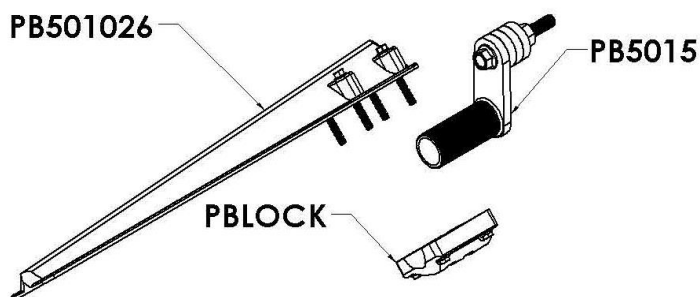

Figure 10
- A. Use four 5/16" x 3" bolts to attach the bracket (part number PB501026) and the backing block (part number PBLOCK) to the steel swivel (part number PB5015). As shown in Figure 10. **Make sure the pipe end of the PB5015 is fully engaged into the bracket.**